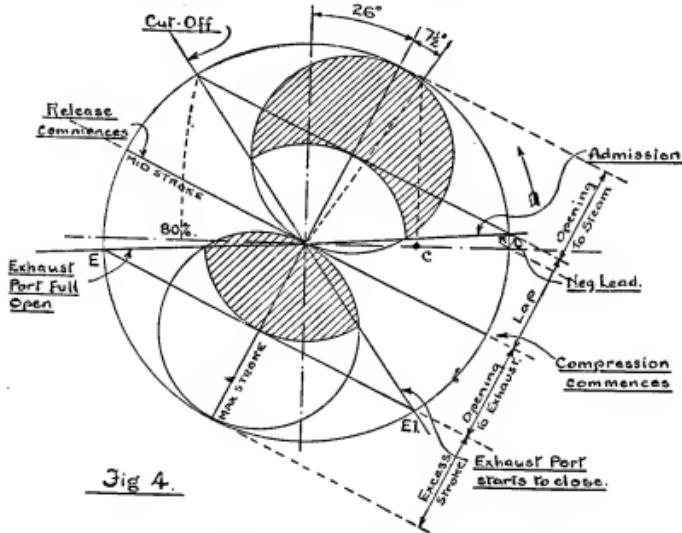

Fig. 4.
is really a picture of the valve events, and the first requirements to know for drawing it are : (1) lead of the valve, positive or negative ; (2) required cut-off at full gear ; (3) exhaust lap or inside lead, if any. The valve travel is known, being 0.4 of the cylinder bore, while the lap is about a quarter of the valve travel. We can now describe the valve circle, after putting in the centre-lines as shown in Fig. 4. This circle should be drawn to a scale at least ten times as large as the actual valve stroke. Set off next from the right-hand side of the circle, the cut-off as percentage of the stroke, and erect a perpendicular, produced with a compass set to the radius equal to the length of the connecting-rod ; and where this cuts the circle is the relative position of the crank-pin at cut-off in its circular path. We then mark the lead point at the right-hand side of the circle, and if negative lead is to be given, we mark that above the centre-line ; but if positive, below the centre line, showing that the valve would start to open before the piston is at the end of its stroke. In Fig. 4 it is shown as negative lead ; the piston is then just commencing its stroke, before the valve starts to open to steam. The lead is measured by the small radius R , and then a line is drawn from the crank centre cutting the valve circle where shown touching the rad. R . With this point, and the one where the cut-off line cuts the circle, allows us to obtain the angle of advance θ^o , for bisecting the two lines somewhere on the valve circumference, gives you the required angle, being measured between the radius of bisection and the vertical centre line. On this angle of advance line, we draw in two valve displacement circles as shown, and the lap of the valve is drawn in with radius equal to the port width where it should meet the point of intersection with the cut-off line and the valve circle, and the radius will also be found to meet at the intersection of the lead radial line as shown.